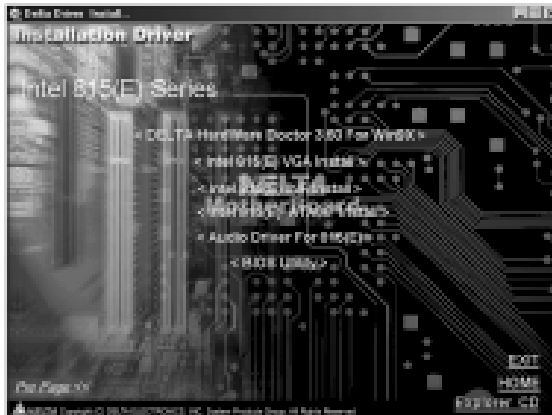

Figure 2
When you click on "M815(E) Series" under "Socket 370 Series Motherboard" from the opening screen of the installation program, the drivers menu displays six items shown as below Figure 2.
- Click "**DELTA HardWare Doctor 3.60 For Win9X**" on the Figure 2, the screen will appear Figure 3. for HardWare Doctor 360 Setup.
- Click **“Intel 815(E) VGA Install”** on the Figure 2, the screen will appear Figure 7. (Install the VGA driver from sub-folders for Windows 95/98, NT4.0, and 2000).
- Click “**Intel 815(E) INF Install**” on the Figure 2, the screen will appear Figure 11. The Intel(R) INF installation program will now guide you through the rest of the install process.
- Click “**Intel 815(E) Ultra ATA66 Storage Driver Install**” on the Figure 2, the screen will appear Figure 13, for Intel Ultra ATA Storage Driver install.
- Click **“Audio Driver For 815(E)”** on the Figure 2, the screen will appear Figure 16 (Install the audio driver from sub-folders for Windows 95/98, NT4.0 and 2000).